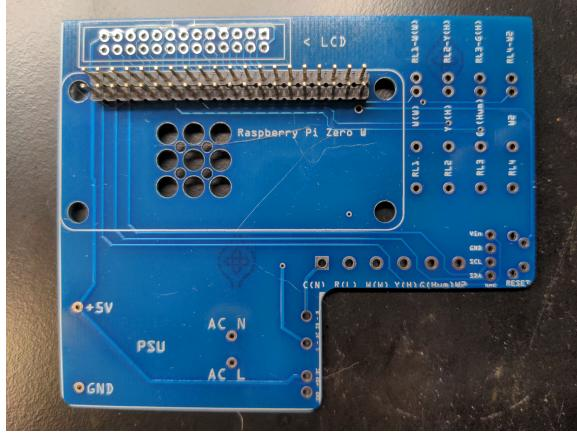

Figure 7: Headers for the pi, don't forget the reset pin like I did here!
1. Solder standard headers onto PCB for the pi (figure 7) Make sure you don't miss the reset pin at the right, just below the block of 2x20 pins